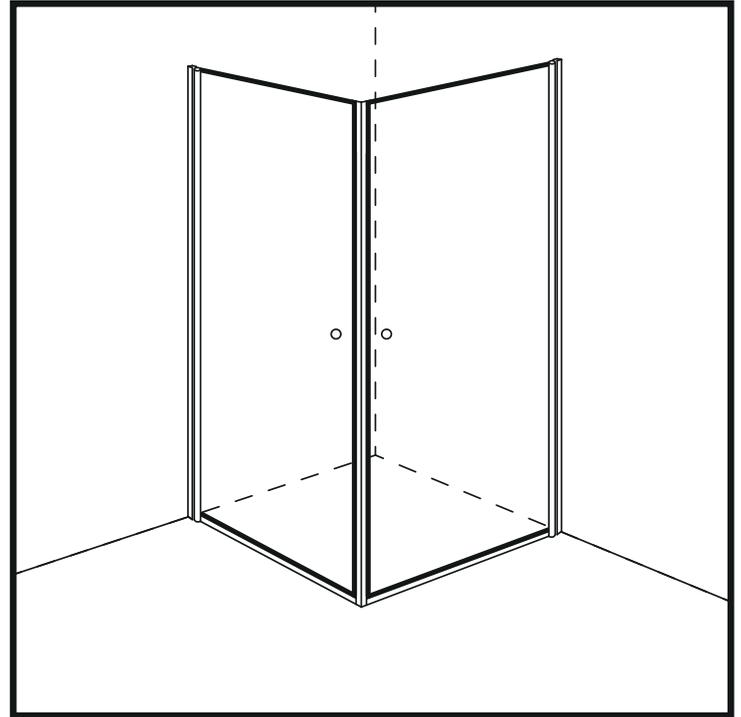

Figure 18
19. Remove the blocks from under the glass. (Figure 18)